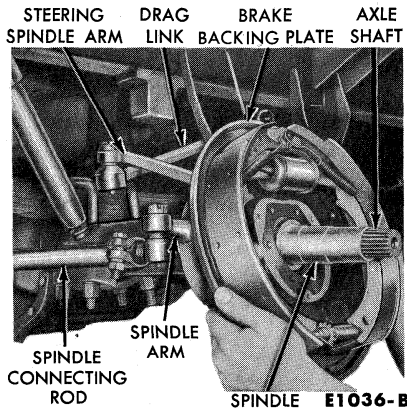

FIG. 18—Brake Carrier Plate Removal or Installation
5. Remove the cap screws which retain the brake carrier plate and spindle to the spindle arm. Remove the brake carrier plate and spindle (Fig. 18).
1. Position the spindle and the brake carrier plate on the steering arm, and then install the retaining cap screws (Fig. 18). Install the oil baffle.